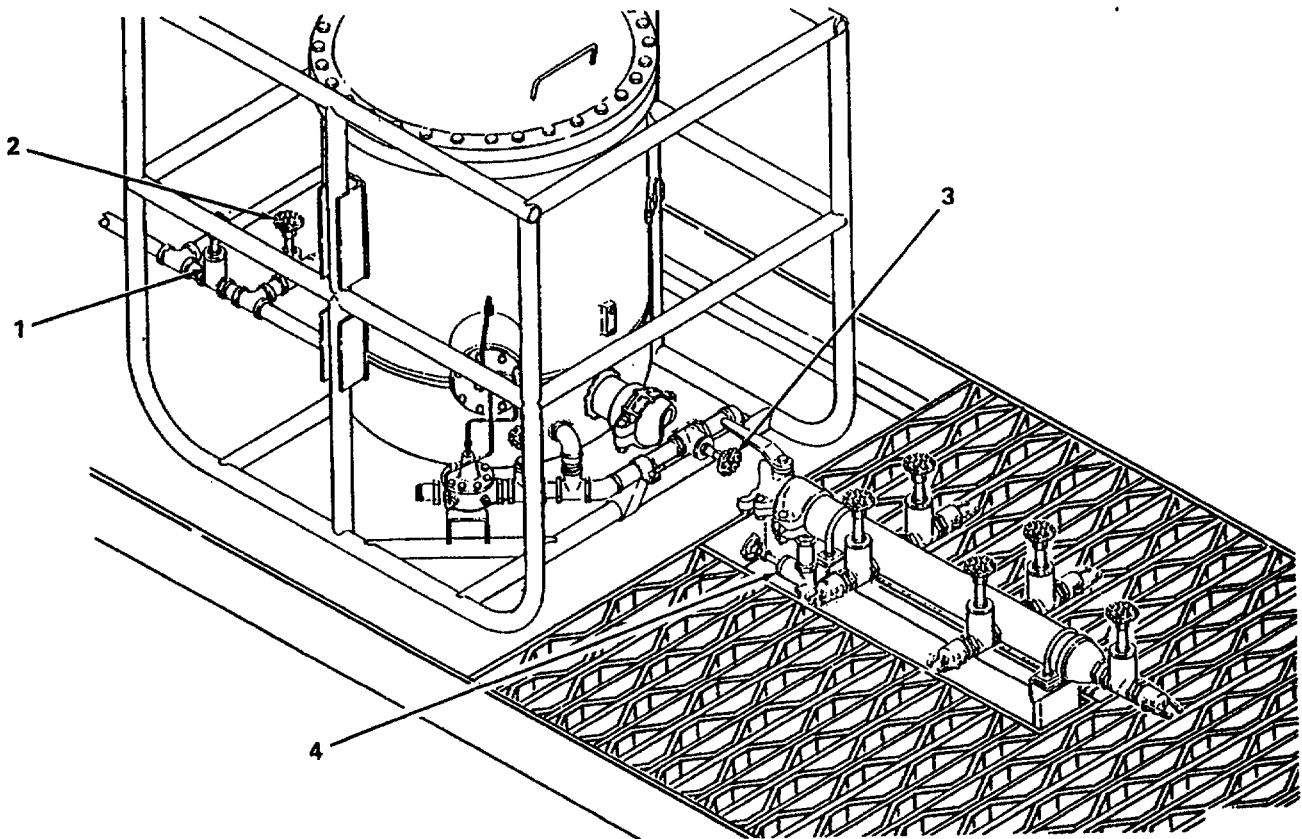

Figure 2-15. Drain Valve Positions During Refueling Operations.
- 7 Close drain valve (1, figure 2-15) in fuel oil return line.
- 8 Close manual fuel oil drain valve (2).
- 9 Close manual water drain valve (3).
- 10 Close cargo manifold drain valve (4)
- (1) After refueling vessels. Following the refueling of each vessel, do the following:
- (2) After refueling operations are suspended. When refueling operations are over for the day, do the following:
- (b) Open drain valve (4, figure 2-15) to permit fuel to drain from cargo manifold.
- (c) Open drain valve (1) in fuel oil return line to permit oil in on-deck equipment to drain into cargo tank compartment.
- (d) Open manual water drain valve (3) to drain water from fuel/water separator.
- (i) Perform After (A) PMCS (refer to table 2-1).